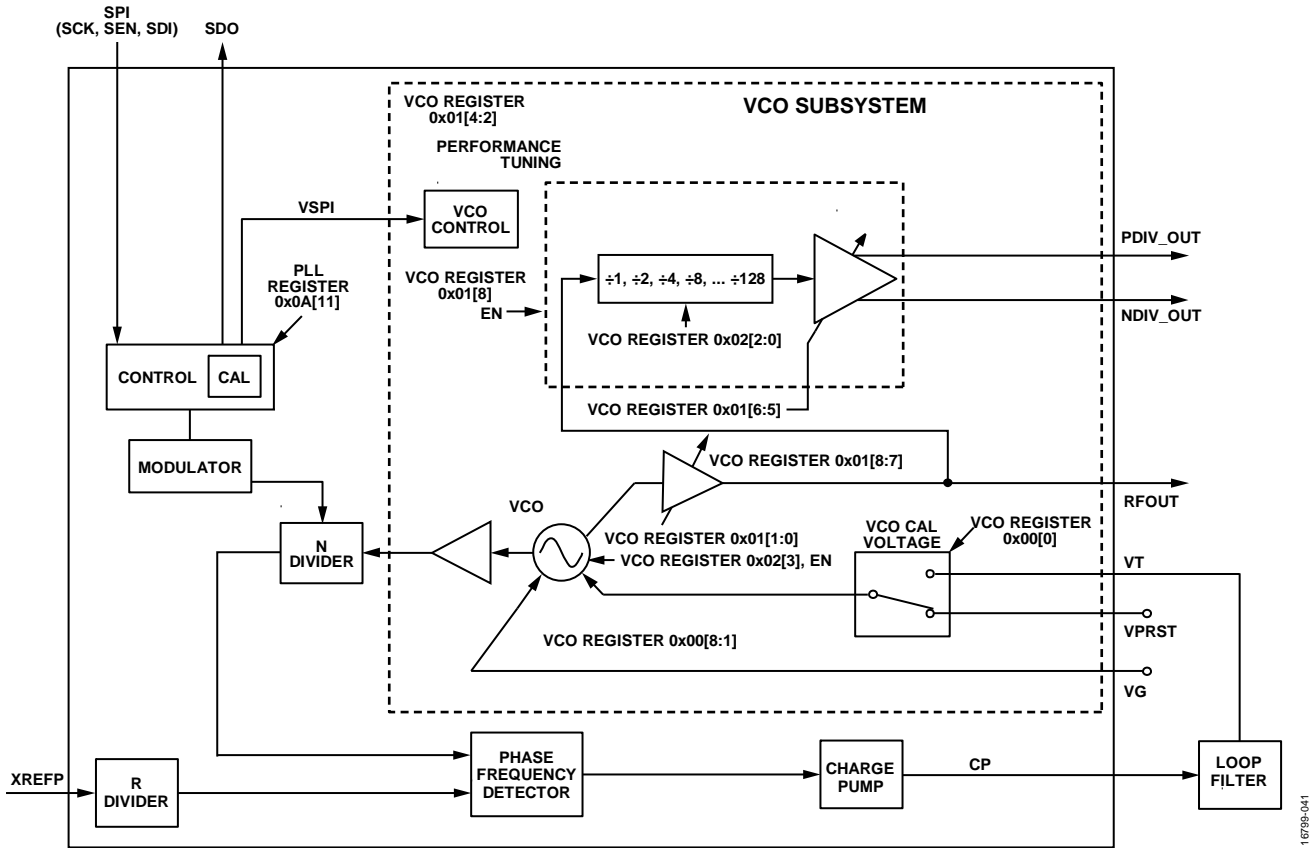
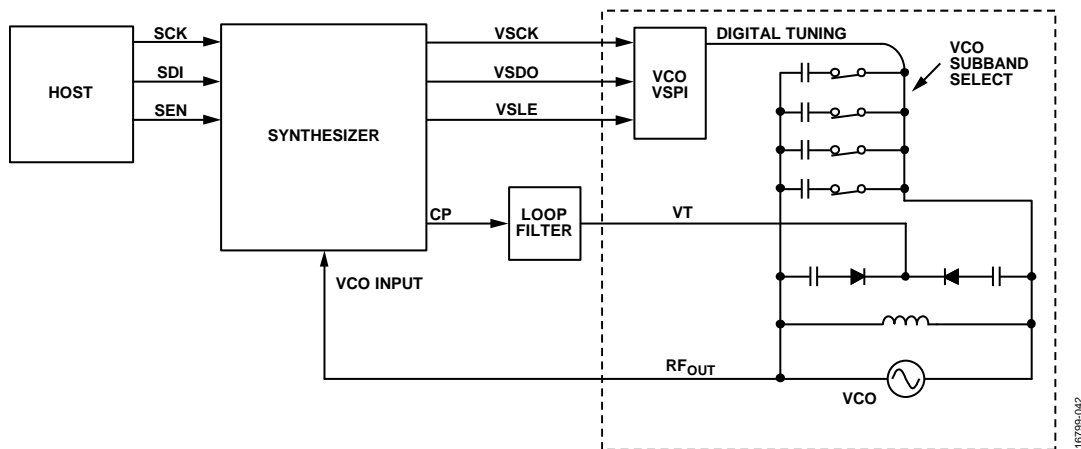

Figure 19. Detail of PLL and VCO Subsystems
Figure 20. Simplified Step Tuned VCO
See Figure 19 and Figure 20.
- All modes are VCO register programmable, as shown in Figure 19. One loop filter design can be used for the entire frequency of operation of the ADF5610.
The ADF5610 incorporates a step tuned VCO. A simplified step tuned VCO is shown in Figure 20. Step tuned VCOs are unique because they incorporate not only varactor diodes for frequency tuning, but also a digitally selectable, binary bank of capacitors. This bank of capacitors, along with the varactor diodes, defines the frequency range of each subband within a given VCO core. The ADF5610 contains two VCO cores, each with their own bank of capacitors. Multiple VCO cores allow not only broader frequency coverage, but also more consistent tuning sensitivity across the band.
- The VCO SPI register, Register 0x05. This write is required only for manual control of VCO if Register 0x0A, Bit 11 = 1, autocalibration is disabled, or to enable or change the VCO output divider value, VCO bias, or the divider power level or RFOUT power level. See Figure 19 for more information.